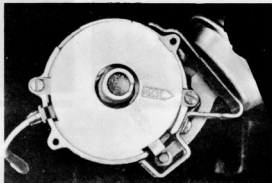

Fig. 1.36. Position of distributor shaft when No 1 piston is at top-dead-centre. (Delco-Remy type). (Sec. 49)
- 5 The gears are cut on a helix and therefore it will be necessary to allow the distributor assembly to turn with the shaft whilst the gears fall into mesh. The reference mark made before dismantling indicates the final position for the distributor (Figs. 1.36 and 1.37).